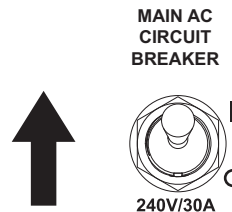

Figure 3-46. Main AC Circuit Breaker ON (I)
- See Figure 3-46. Switch main circuit breaker to ON (I).